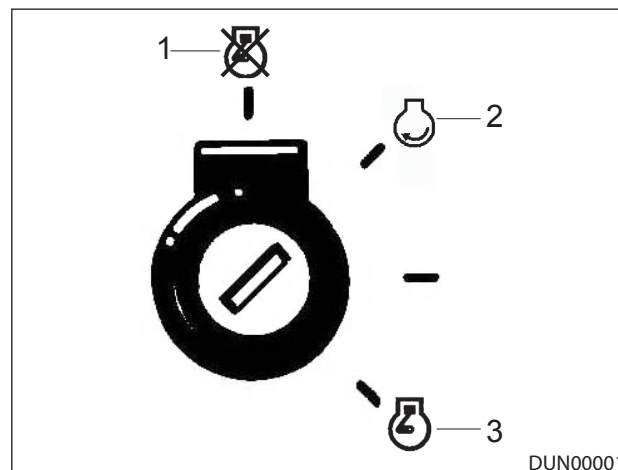

Figure 7.4 - Ignition Key Positions
2. Turn the ignition key on the control panel to the "ON" position, Figure 7.4 (Item 2).
3. Turn the key to the crank position, Reference: Figure 7.4 (Item 3).
2. Turn the ignition key to the "ON" position, (Position 2), Reference: Figure 7.4.